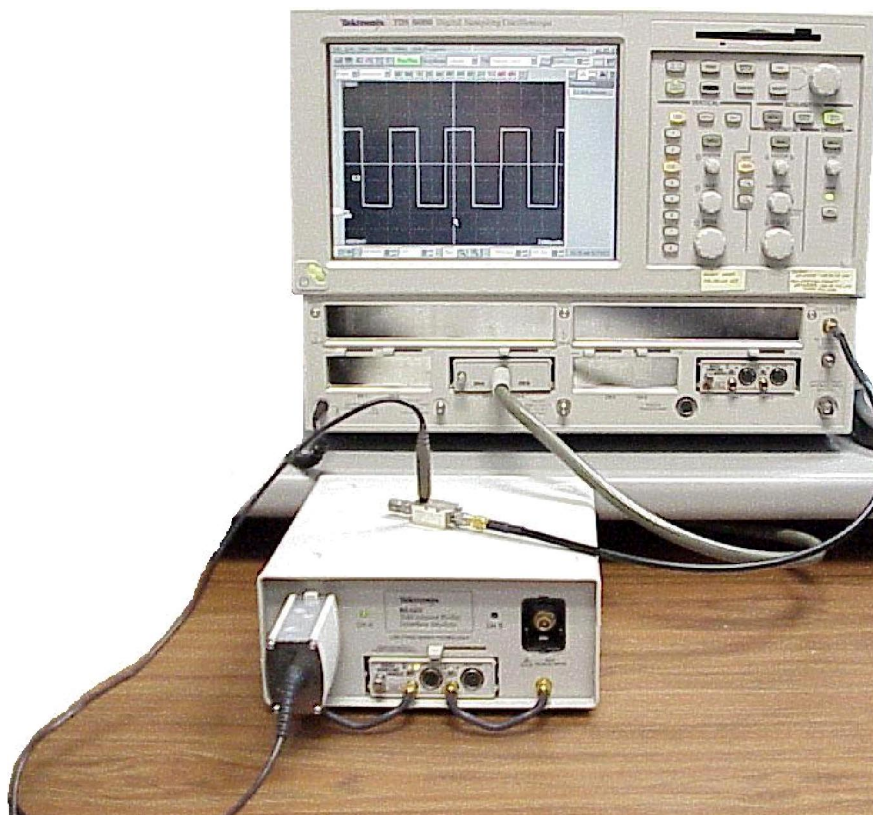

Figure 7: Equipment setup for functional check
- a. On the sampling oscilloscope, connect the SMA cable to the Internal Clock Output. See Figure 7 on page 10 for details.
- b. Turn the Vertical scale knob and set the sensitivity to display a waveform similar to the one shown in Figure 7.